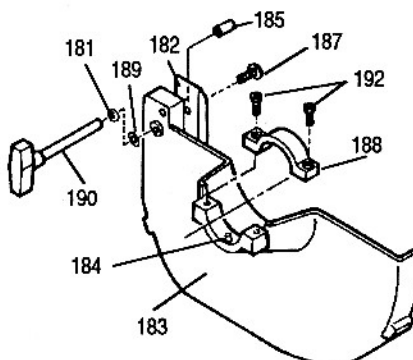

Fig. 34
45. See Fig. 34. Remove the lower dust chute from the lower saw guard. Locate the plate clamp assembly in the largest inner packing box. Remove the riving knife knob (190), washer (181), and "O" ring washer (189) from the carriage bolt (187). Attach the plate clamp (182) to the lower saw guard (183). Make sure the two alignment pins are properly seated in the plate clamp holes.